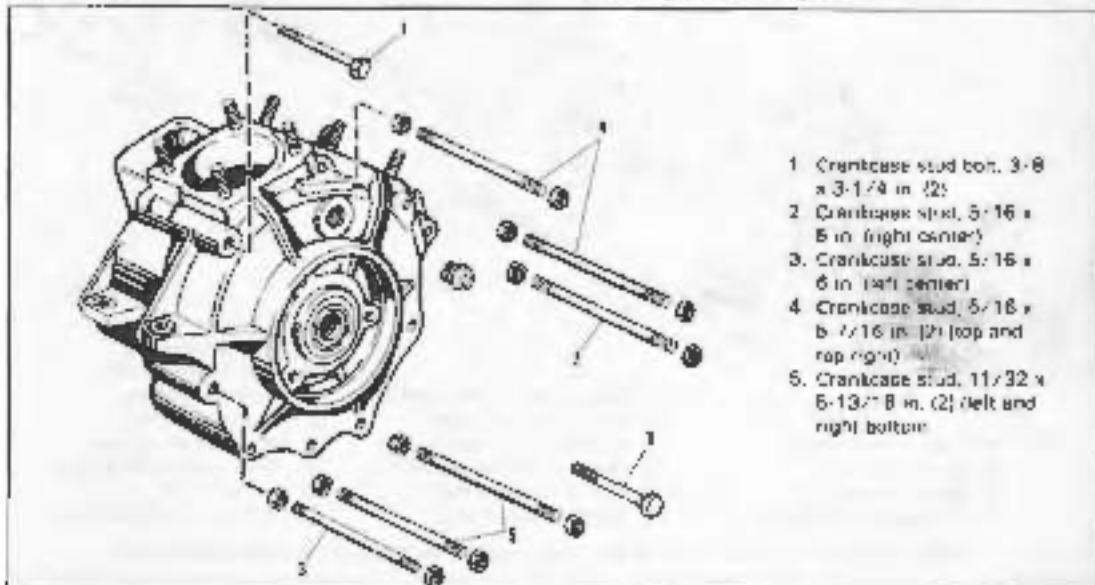

Figure 3-36. Crankcase Studs - Exploded View
Refer to Figure 3-36 and continue disassembly:
5. Position crankcase with gearbox (right side up). Tap crankcase with wooden or soft mallet to loosen top half. Lift right crankcase half (1) off pinion shaft main bearings. Remove spiral lock ring (2) from pinion shaft with tip of screwdriver. Lift bearing washers (3 and 5) with bearings and bearing retainers (4) off pinion shaft.
6. Mount flywheel and left case assembly on press table supporting case on parallel bars (Figure 3-36) and press on end of sprocket shaft with roller press until flywheel assembly (8) drops out, freeing sprocket pin bearing half (9), spacer (6) and spacer (10). Remove seal (7).